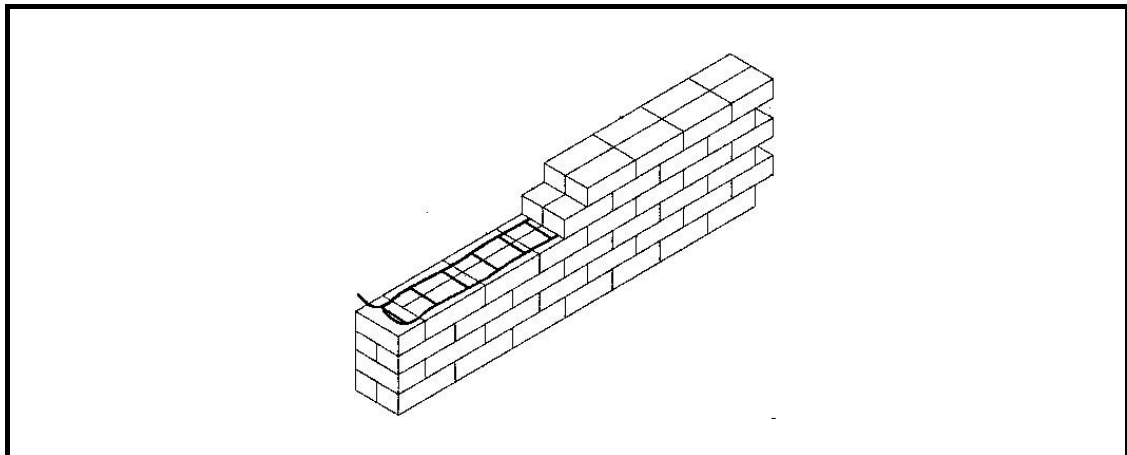

FIGURE 5.1
5.1 Answer the following questions on the wall construction in FIGURE 5.1.